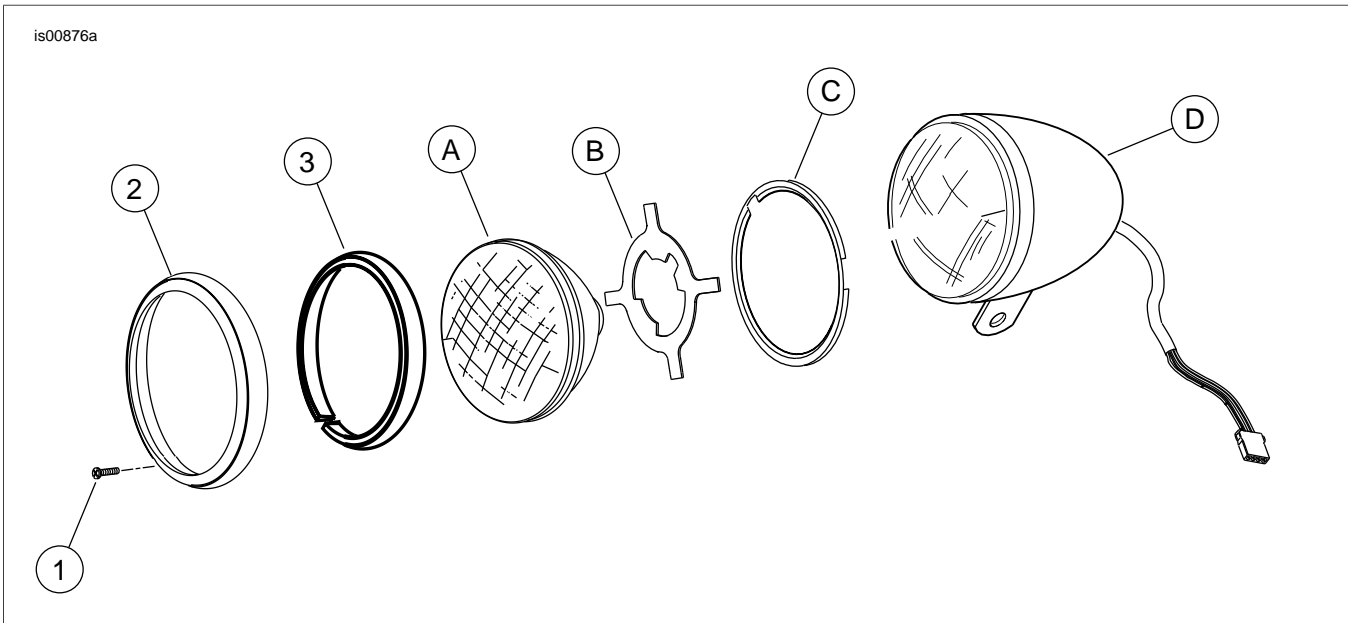

Figure 2. Service Parts: Headlamp Trim Ring
See Figure 2 and Table 1.
3. See Figure 2. Insert glass lens assembly (A) inside trim ring (2) as shown.